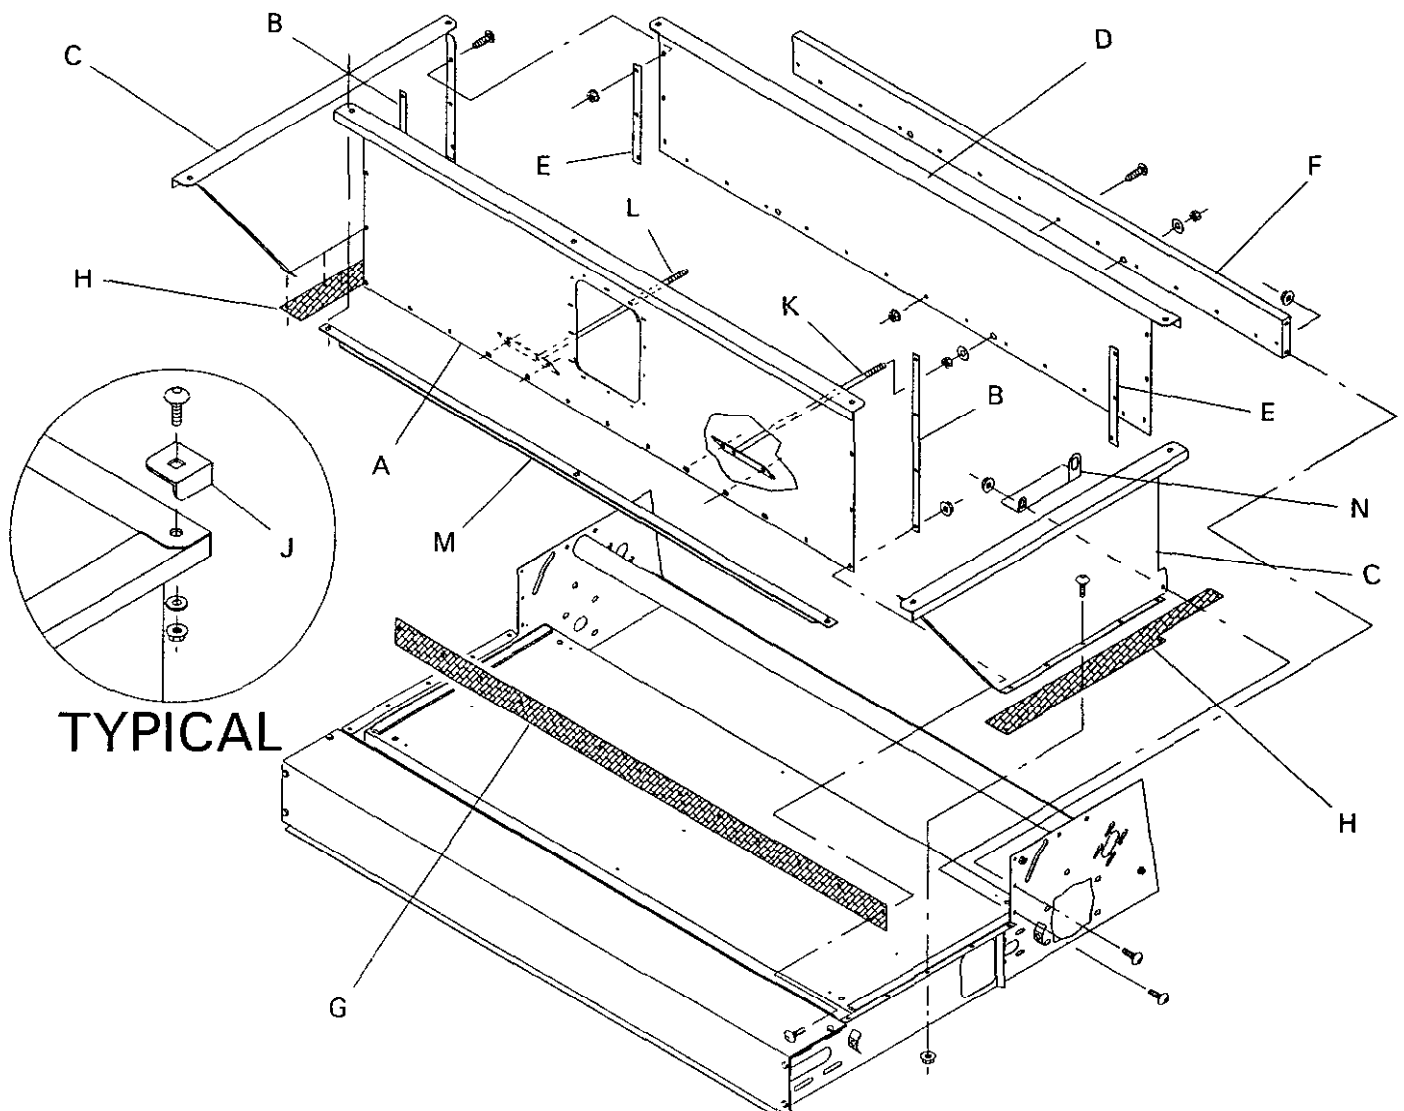
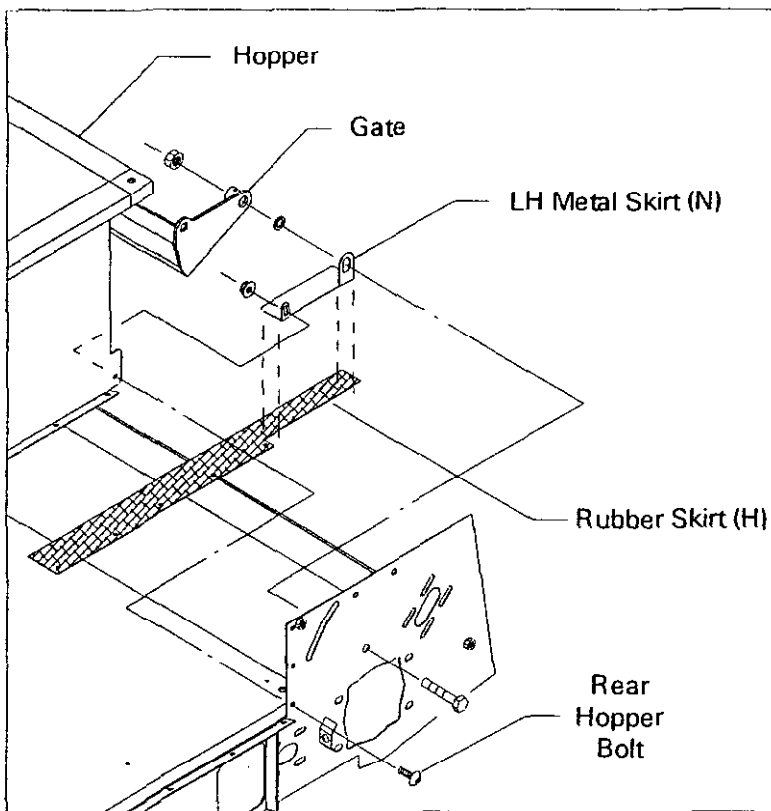

Figure 2
Figure 3
### ASSEMBLE HOPPER (Fig. 2 & 3)
2. Attach the Hopper Brace (F) to Base Frame using (4) 1/4" x 5/8" carriage bolts and whiz nuts.
3. Attach the rear (D) to the Hopper Brace using 1/4" x 5/8" carriage bolts and whiz nuts. Assemble the sides (C), side Rubber Skirts (H) and Hopper Corner Strips (E) to the Rear (D). Do not secure hardware.
4. Attach both L.H. and R.H. Support Rods (K & L) through the hopper as shown in Fig. 2.
5. Attach the Front Rubber Skirt (G) to the Front (A) with Hopper Strips (B) to the sides and bottom of topdresser using 1/4" x 5/8" carriage bolts and whiz nuts. Secure hardware.
6. Secure the LH and RH metal skirts (N) to the hopper and side frame with 1/4" x 5/8" carriage bolts. Secure tightly.
**NOTE:** Only the LH metal skirt is shown in Fig. 2 and Fig. 3.
7. Attach the Hopper Brace (M) under the front channel of the Hopper Front as shown in Fig. 2. Secure center holes with 1/4" x 5/8" carriage bolts.
8. Attach (4) Corner Brackets (J) to the corners of the hopper including the front Hopper Brace .